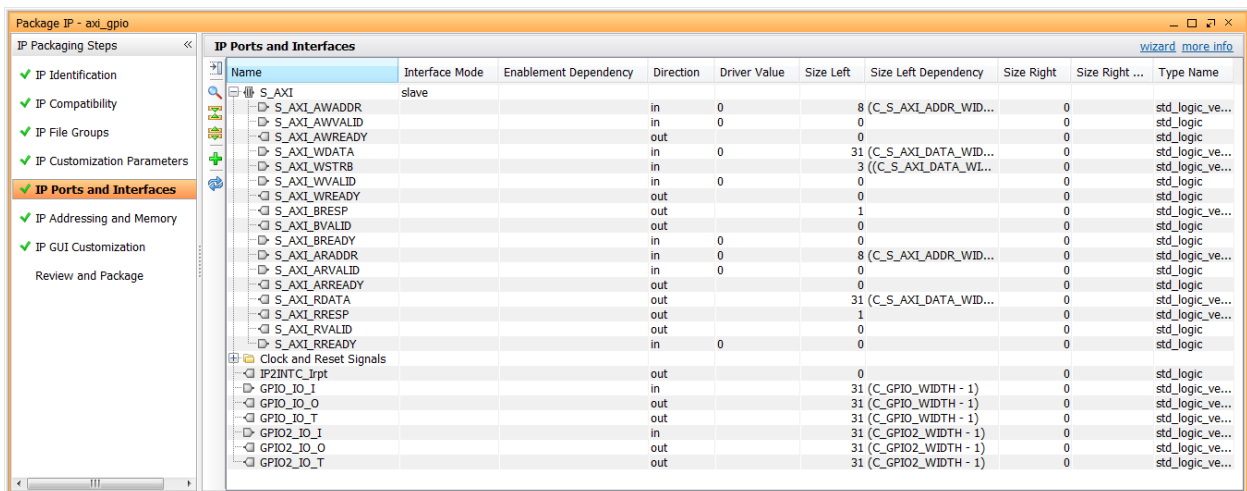

Figure 154: IP Ports Page
15. Click **IP Ports** to see all the I/O ports in the design (FIGURE 154).